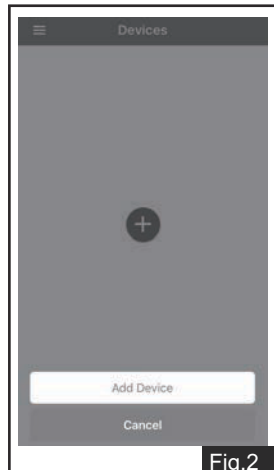
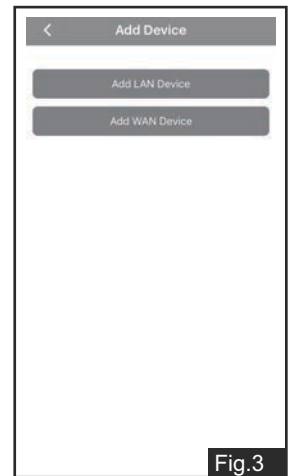

Fig.2
Fig.3
2. Range set too high may increase false triggering. (See Fig.2, Fig.3)